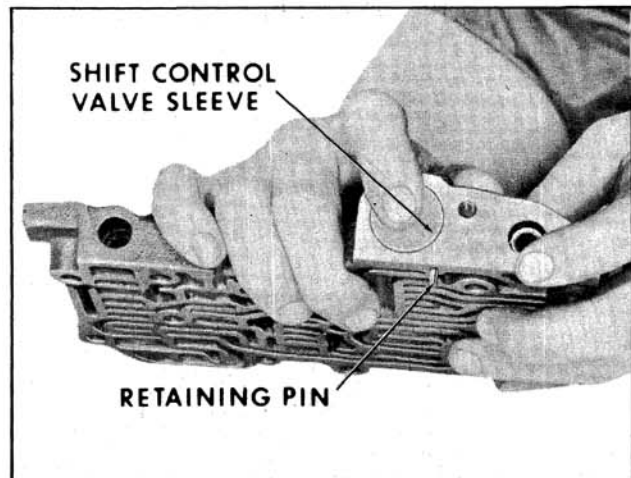

Fig. 6-396 Removing Shift Control Valve and Shift Valve
2. Depress shift control valve sleeve and remove retaining pin by turning valve body over so pin will fall free. Remove shift control valve sleeve, shift control valve, spring, washer, and shift valve. (Fig. 6-396)